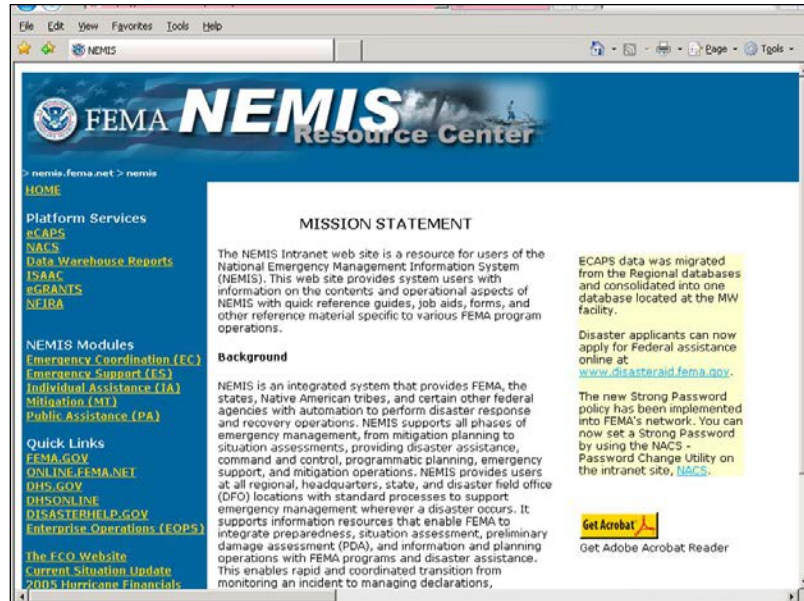

Figure 2-1: NEMIS Home Page
1. From within the FEMA Intranet, enter <https://nemis.fema.net/nemis/> in your browser address bar. The NEMIS Resource Center Main Page is displayed (Figure 2-1).